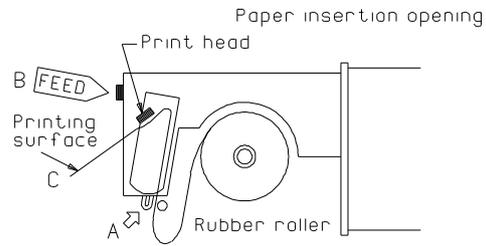

Figure 2
- 6.2.3 Gently push the paper face down into insertion opening (A) in Figure 2. Keep pressing the feed switch (B) until the paper comes out from the print head (C).